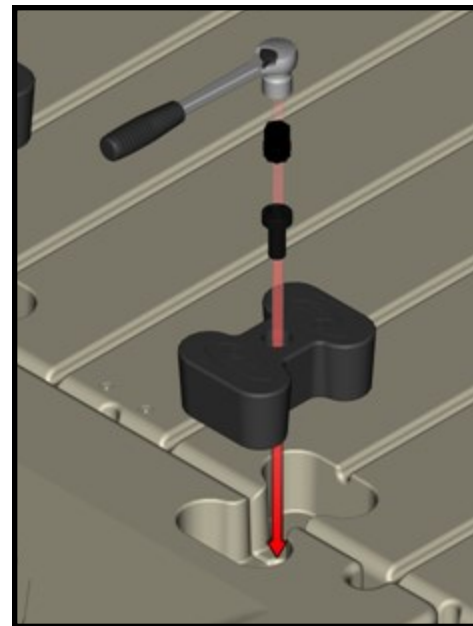

Figure 10.
3. Install coupler with seated bolt on the in-water installation tool, (Figure 10).
9. While holding pressure, insert the top coupler into the opposing pocket by aligning the hole in the top coupler over the rod and pushing the coupler into the pocket, (Figure 10).